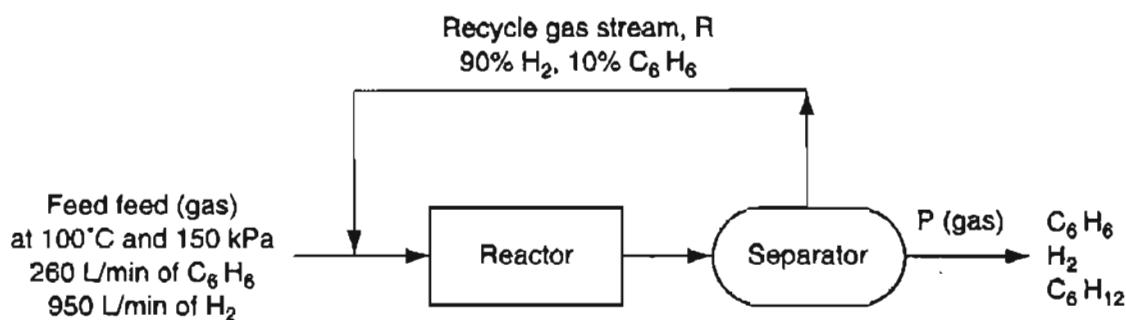

Figure P13.45
- **13.45 Benzene (C_6H_6) is converted to cyclohexane (C_6H_{12}) by direct reaction with H_2 . The fresh feed to the process is 260 L/min of C_6H_6 plus 950 L/min of H_2 at 100°C and 150 kPa . The single pass conversion of H_2 in the reactor is 48% while the overall conversion of H_2 in the process is 75%. The recycle stream contains 90% H_2 and the remainder benzene (no cyclohexane). See Figure P13.45.